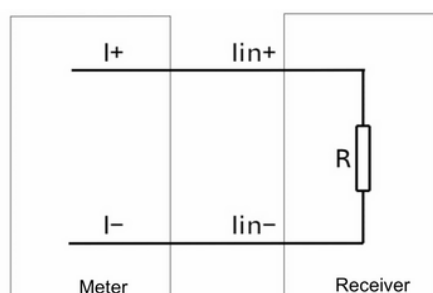

Figure 8
- Typical wiring is shown in Figure 8.